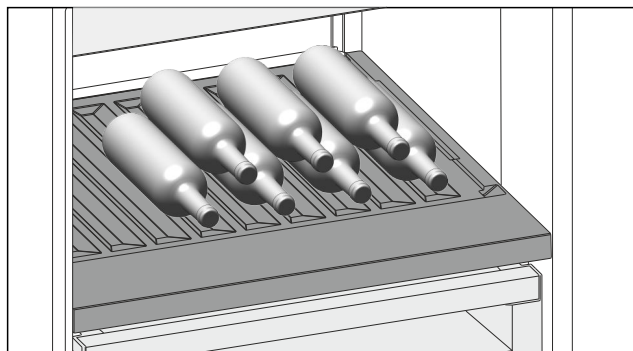

Fig. 175 Example illustration
- Place bottles in the back row with their bases against the back wall. (see Fig. 175)